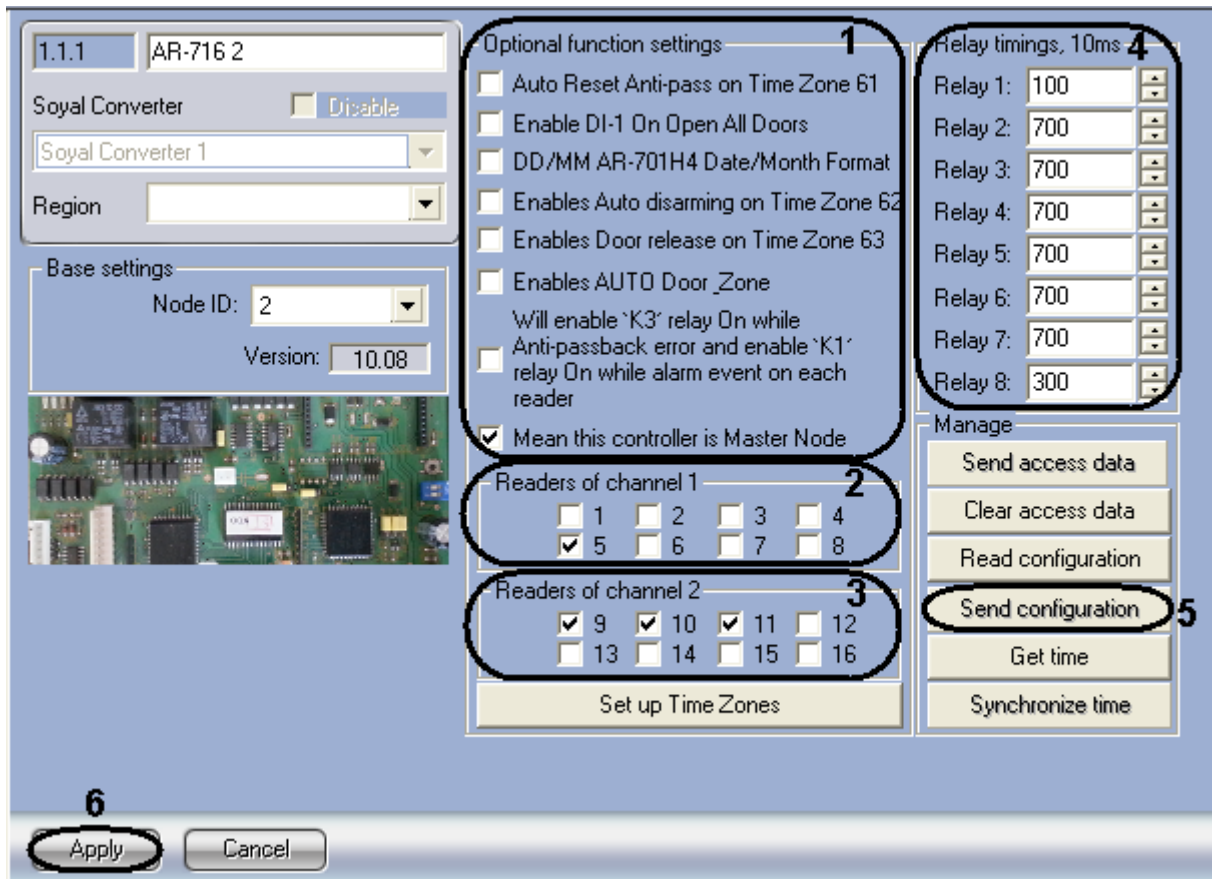

Figure 2.4—4 Manual configuration of AR-716 controller
2. In the **Optional function settings** section select the needed function settings checkboxes (Figure 2.4—4, **1**). Descriptions of all function settings of the *AR-716* controller see in the vendor documentation.
3. In the **Readers of channel 1** section select those door readers which are connected to the Channel 1 (Figure 2.4—4, 2).
4. In the **Readers of channel 2** section select those door readers which are connected to the Channel 2 (Figure 2.4—4, 3).